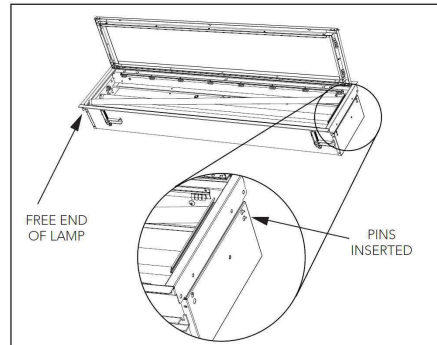
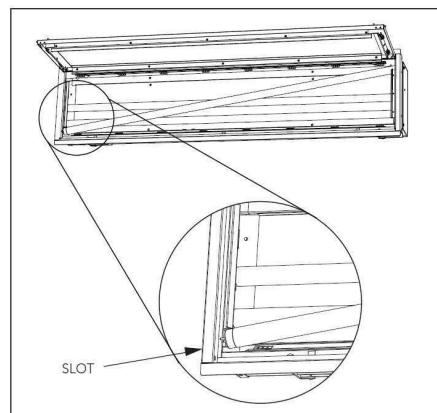
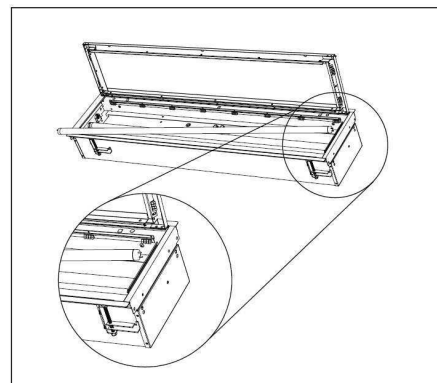

Figure 12
Figure 13
Figure 14
1. Lamp Removal: Start with one of the outside lamps and remove one lamp at a time. Twist lamps $\frac{1}{4}$ -turn and slide out of sockets. Insert the 2 contact pins, at one end of lamp, into the matching holes at end of housing near the corner. (See Figure 12) Angle the opposite end (free end) of the lamp so it is diagonal across the fixture. Slide contact pins, of the free end, out of fixture through slot at fixture opening in corner as shown in Figure 13. Lamp is now freely removed. (See Figure 14)
2. Lamp Installation: Start with one of the outside lamps and install one lamp at a time. The last lamp to install should be the other outside lamp (install middle lamp as the second lamp). (See Figure 14) Insert the 2 contact pins, at one end of lamp, into matching holes at ends of housing near the corner. Angle the opposite end (free end) of the lamp so it is diagonal across the fixture as shown in Figure 13. Slide contact pins, of free end, into fixture through slot at fixture opening in corner. (See Figure 12) Slide lamp pins into sockets and twist lamps $\frac{1}{4}$ -turn to lock in place.